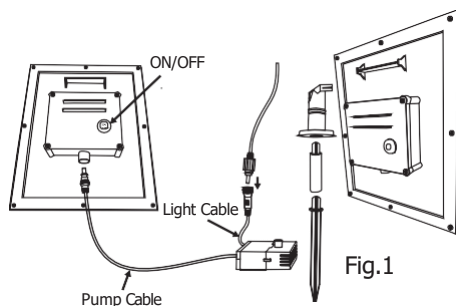

Fig.1
2. Connect the pump cable to the socket of the control box on the rear side of the solar panel. (Fig.1). Make sure to put the solar panel in direct sunlight.